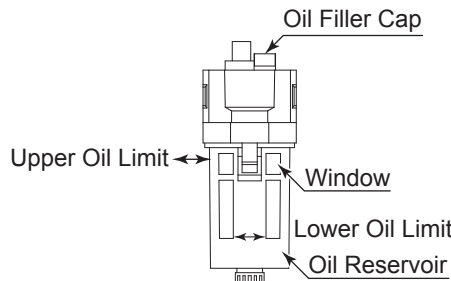

Fig. 21
- ① Connect the Filter Joint to the Secondary Joint (φ6 One - Touch Joint) of the Air Line Kit.
- ② Fill Oil Reservoir through the Oil Filler Cap with recommended NAKANISHI Lubricating Oil (K - 211 : Air Line Kit's Standard Accessories) to Upper Limit of the Fig. 21. Disconnect from air supply prior to opening Oil Filler Cap. Do not over or under fill.
- ③ Connect the φ6mm air hose (Air Line Kit's Standard Accessories) to the Primary Joint of the Air Line Kit and Compressor.
- ④ Supply air from the air compressor and turn the Regulator Knob (clockwise : increased) to set air pressure between 0.3 - 0.5 MPa.
- ⑤ Turn the ON / OFF Valve and rotate the Air Motor Spindle with recommended proper air pressure. Adjust the Oil Drip Rate to the recommended volume which is 1 to 3 drops / min. (Commercially Air Line Kit is same Oil Drip Rate). \*If using the " AL - 0304 " or " K - 239 " Air Line Kit, adjust the proper Oil Drip Rate to 30 - 40 drops / min. (Refer to " AL - 0304 " or " K - 239 " of the Air Line Kit Operation Manuals.
- ⑥ Be sure to adjusted to proper Oil Drip Rate before using the Air Motor Spindle.
- ② Oil Amount (Fig. 21)
- (Supply Lubricating Oil to Upper Oil Level Limit of Fig. 21.)